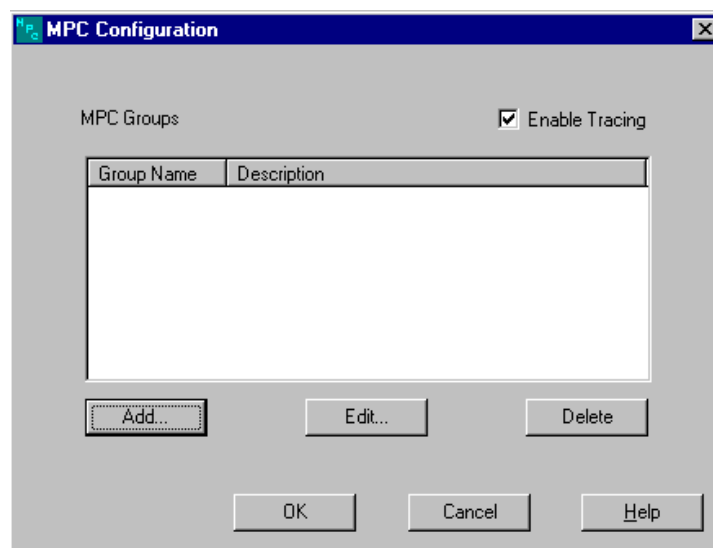

Figure 5-7. MPC Configuration
During link definition for TCP/IP Direct Connect (see page 58) or CS/NT (see page 78) you will be given the option to configure MPC. When you select the option to configure MPC the MPC Configuration dialog box is displayed (Figure 5-7). The following step-by-step procedure will define a new MPC transmission group.
1. From the MPC Configuration screen (Figure 5-7), click the **Add...** button.